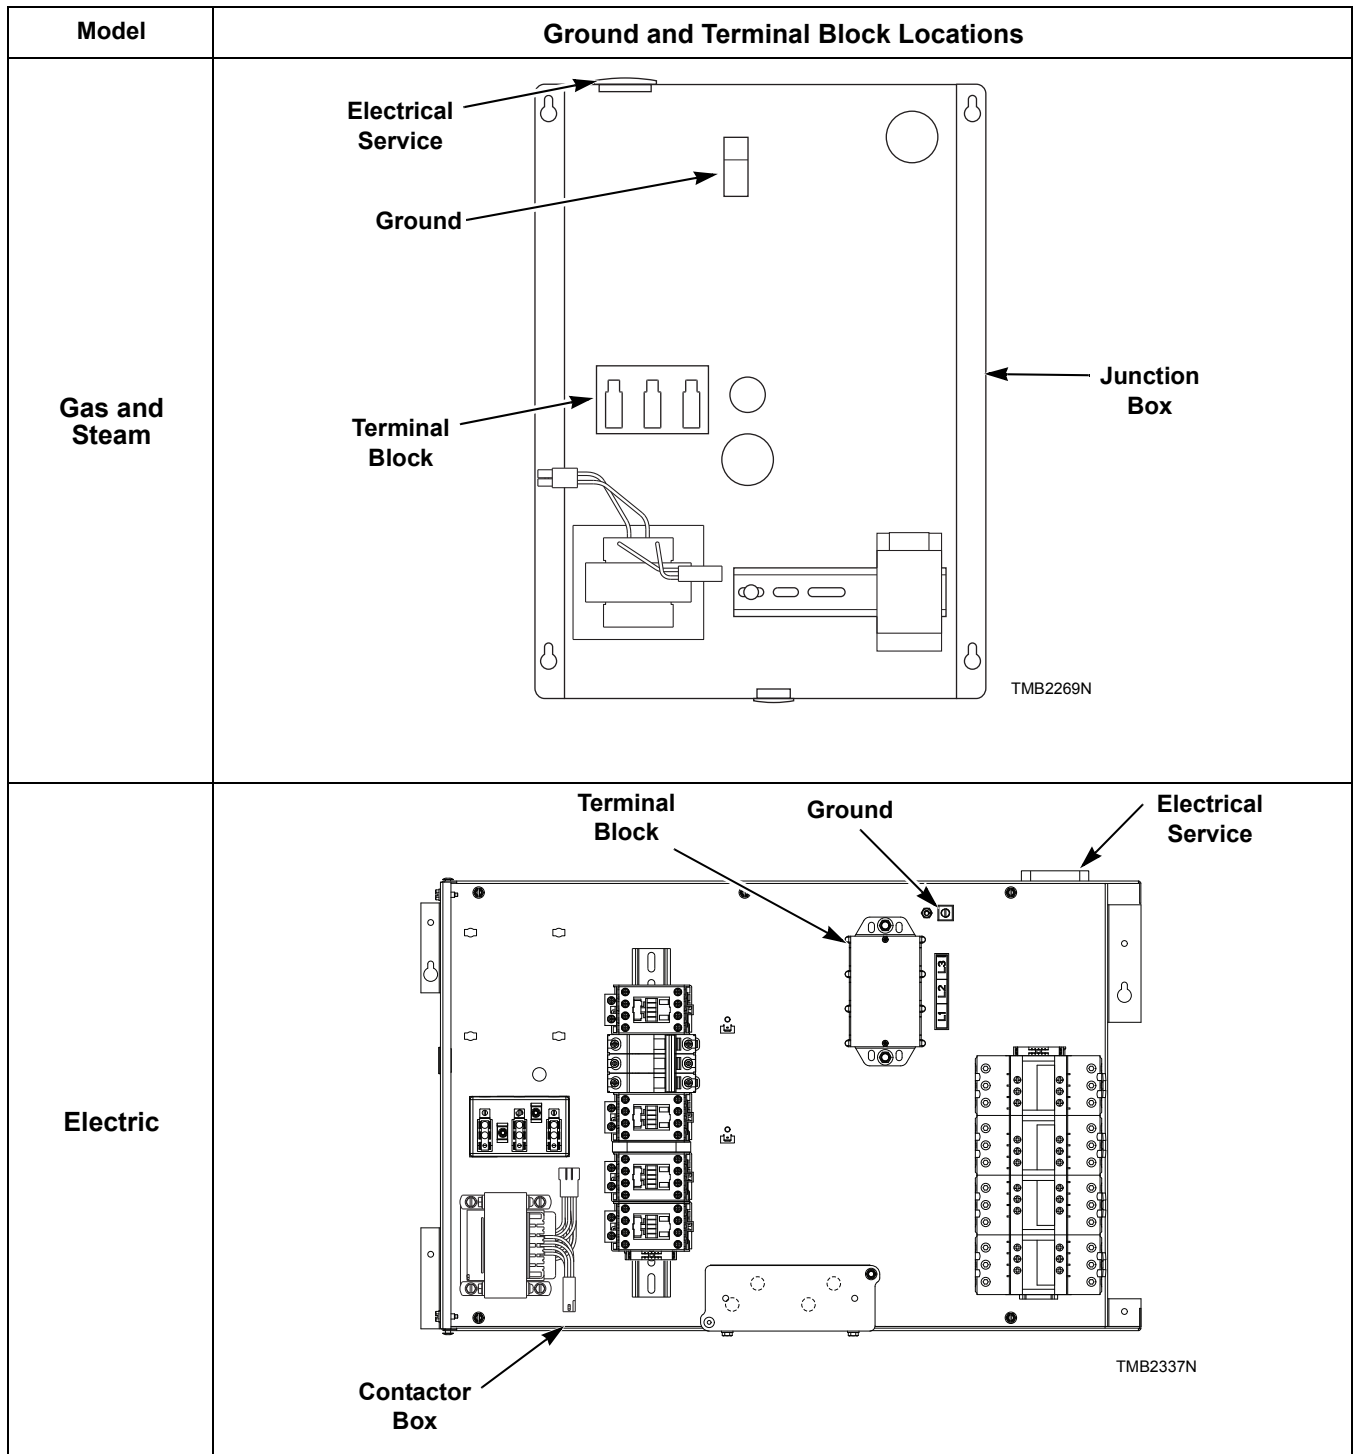

Figure 9
2. Connect conduit-encased leads to the circuit breaker. Connect wire leads to the appropriate labeled terminal on the terminal block. The ground wire must be connected to the ground connection as shown in *Figure 9*.